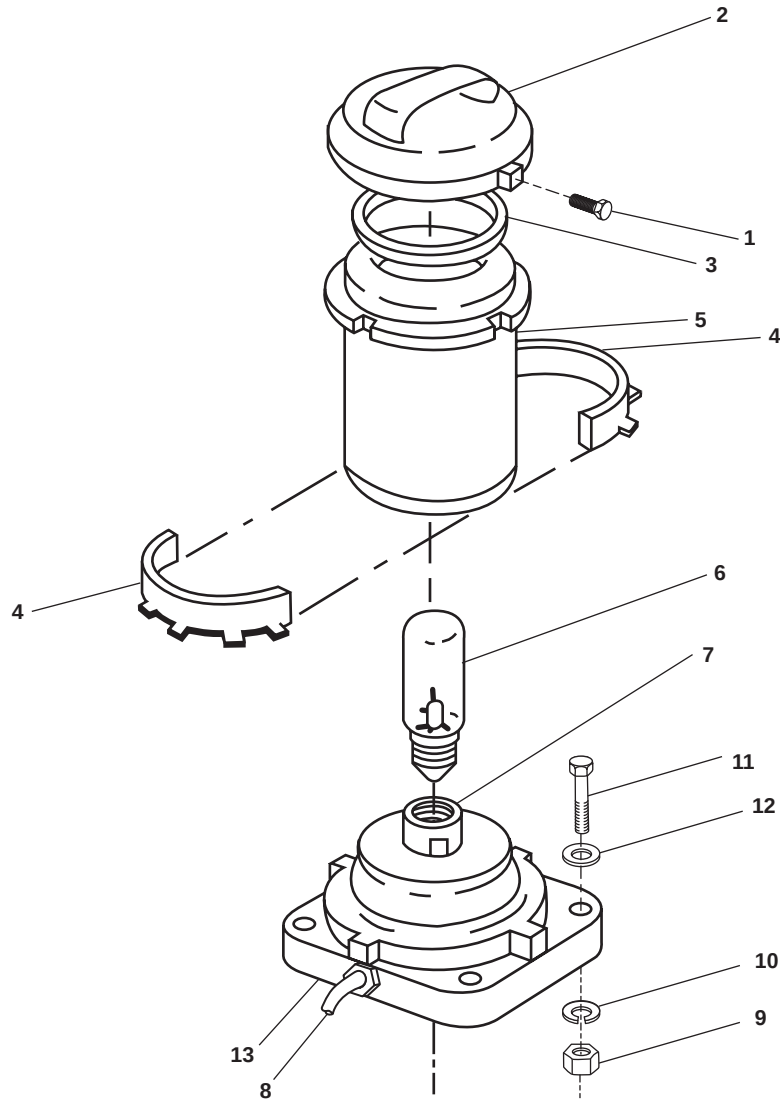

Figure 1. Repair Navigation Light (Single Lens)
1. Loosen the setscrew (figure 1, item 1) and remove the lid (figure 1, item 2) and gasket (figure 1, item 3). Discard the gasket.
2. Remove the clamp (figure 1, item 4).
3. Remove the lens (figure 1, item 5).
4. Remove the lamp (figure 1, item 6) from the socket (figure 1, item 7).
6. Label and remove the wiring (figure 1, item 8).
7. Remove the four nuts (figure 1, item 9), four lockwashers (figure 1, item 10), four bolts (figure 1, item 11), and four flat washers (figure 1, item 12) that secure the light fixture (figure 1, item 13). Discard the lockwashers.
8. Remove the light fixture (figure 1, item 13) from its foundation.
1. Install the new light fixture (figure 1, item 13) on its foundation and secure it with the four bolts (figure 1, item 11), four flat washers (figure 1, item 12), four new lockwashers (figure 1, item 10), and four nuts (figure 1, item 9).
2. Install the wiring (figure 1, item 8) to the light fixture (figure 1, item 13) using the labels from step 6 of Removal as a guide. Remove the labels.
3. Install the lamp (figure 1, item 6) in the socket (figure 1, item 7) hand tight.
4. Install the lens (figure 1, item 5) and secure it with the clamp (figure 1, item 4).